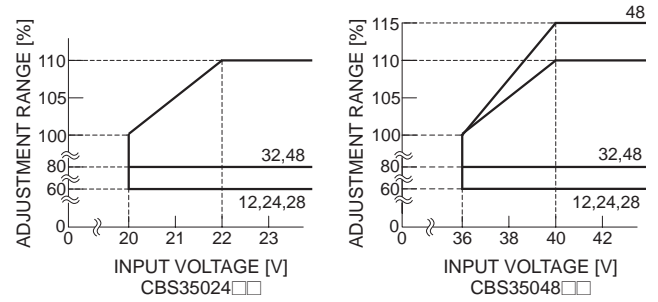

Fig. 4.4-1 CBS350 Output Voltage Adjustment Range
- When input voltage is 20 - 22VDC with CBS35024 models or 36 - 40VDC with CBS35048 models, the output voltage adjustment range becomes as shown in Fig. 4.4-1.